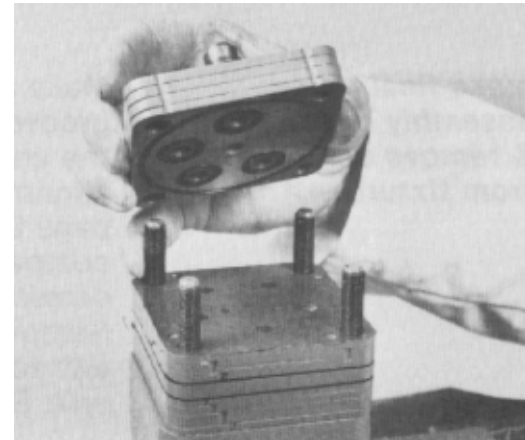

Figure 125
43. Align a groove on the side of the port cover with the grooves on the side of the port manifold and put the port cover into position (Fig. 125).